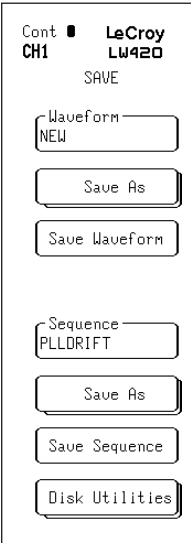

Figure 2.8
1. Push **SAVE** button on the front panel—the menu shown in figure 2.8 is displayed.